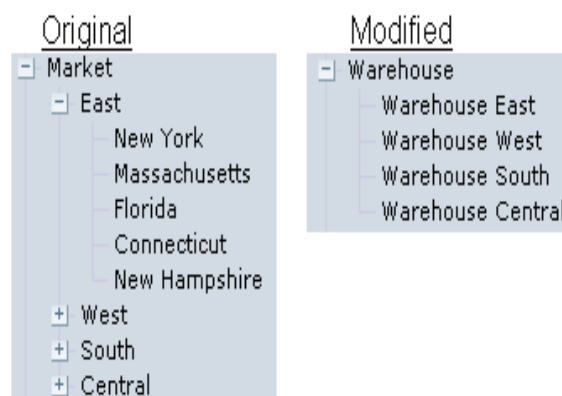

Figure 5
Step 3 - Change “Market” to “Warehouse” and update contents. As previously stated, TBC does not want the “Market” dimension in this cube and needs a “Warehouse” dimension instead. (Figure 5)